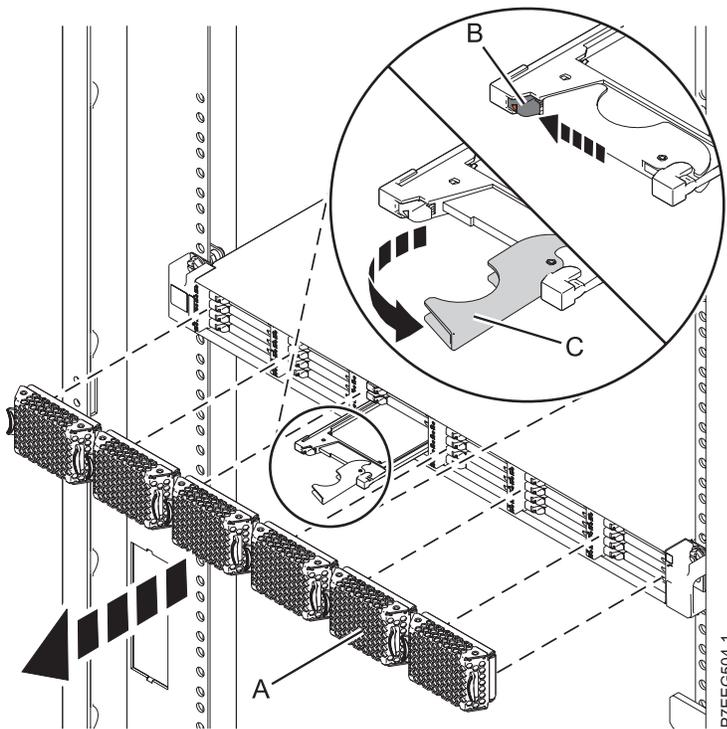

Figure 16. Removing the solid-state drive from the 58/88 PCIe storage enclosure
4. Pull off the bezel (A) that covers the slot that contains the solid-state drive.
5. When the solid-state drive identify LED turns on solid, slide the release latch (B) over gently to unlock the drive handle. See Figure 16.
6. Grasp the handle (C) and pull the drive partially out of the slot.